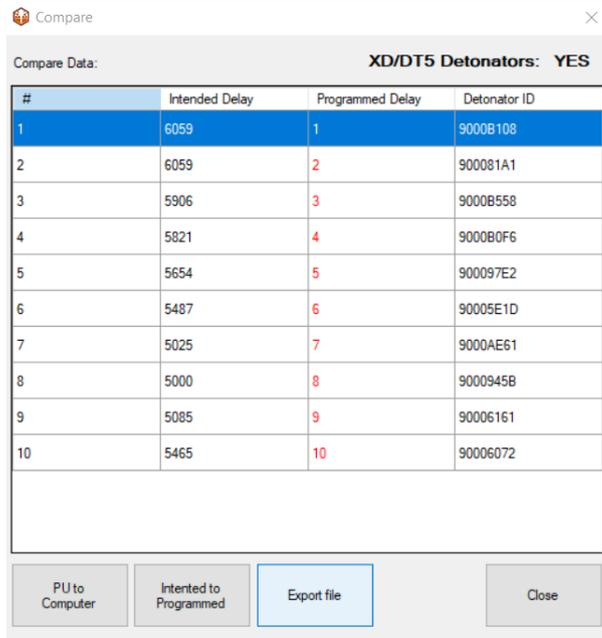

Figure 362 - Compare Data window displaying Export file option.
- Instead of an **Update PU** button, an **Export File** button will be displayed (Figure 362). Clicking on the **Export File** button will prompt a save dialog where you can save the data as an .XML file. A confirmation window will then be displayed to confirm the successful export.